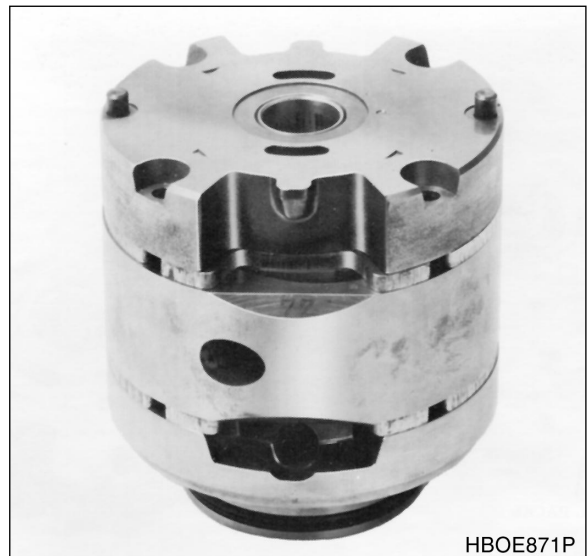

Figure 23
- G. Lubricate exposed surface of rotor and vanes with system fluid. Locate scribe mark on inlet support plate and flex side plate. Hold inlet support plate and flex side plate together and assemble over cam ring and rotor with scribe marks in-line. (See Figure 23.)